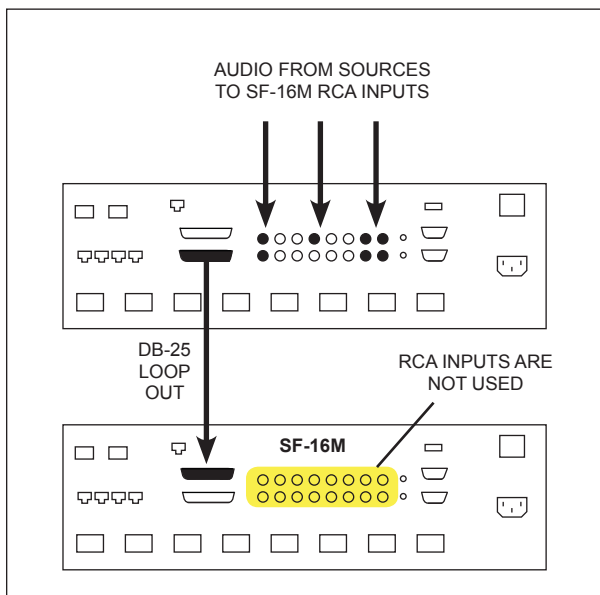
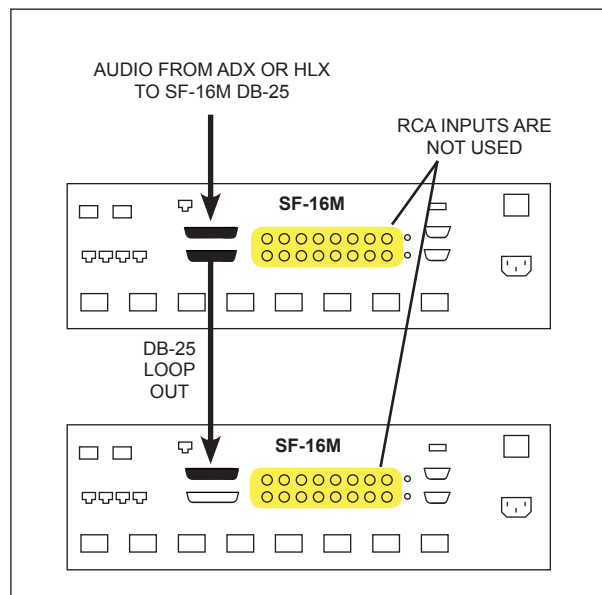

Figure 3.
Figure 4.
- 1. Source audio link between SF-16M units:** When multiple SF-16M units are linked together, the DB-25 audio input receives source audio from the DB-25 audio loop output of the previous SF-16M. The source audio originates from the RCA audio inputs or the DB-25 audio input of the first SF-16M chassis (*Figure 3*).
- 2. Direct input from an Audio Authority audio matrix:** The SF-16M may serve as an amplifier for Audio Authority audio matrix switchers such as the ADX-0808/ADX-1616 and the HLX 2278 audio output card (*Figure 4*). In this scenario, the SF-16M receives all audio content from the ADX or HLX and passes the audio through to the amplified outputs. The HLX or ADX provides all of the matrix switching. (See *Figure 3* below.) If the volume levels will be controlled from the HLX or ADX matrix, turn up all SF-16M outputs to maximum volume (-0dB.)